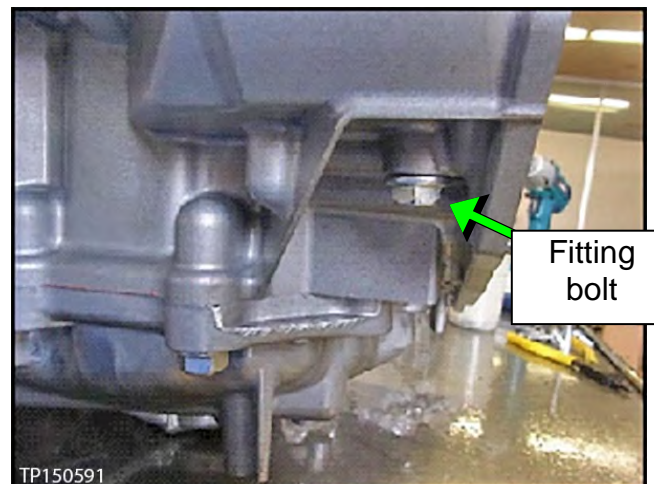

Figure 3D
3. Install the fitting bolt finger tight (Figure 3D).